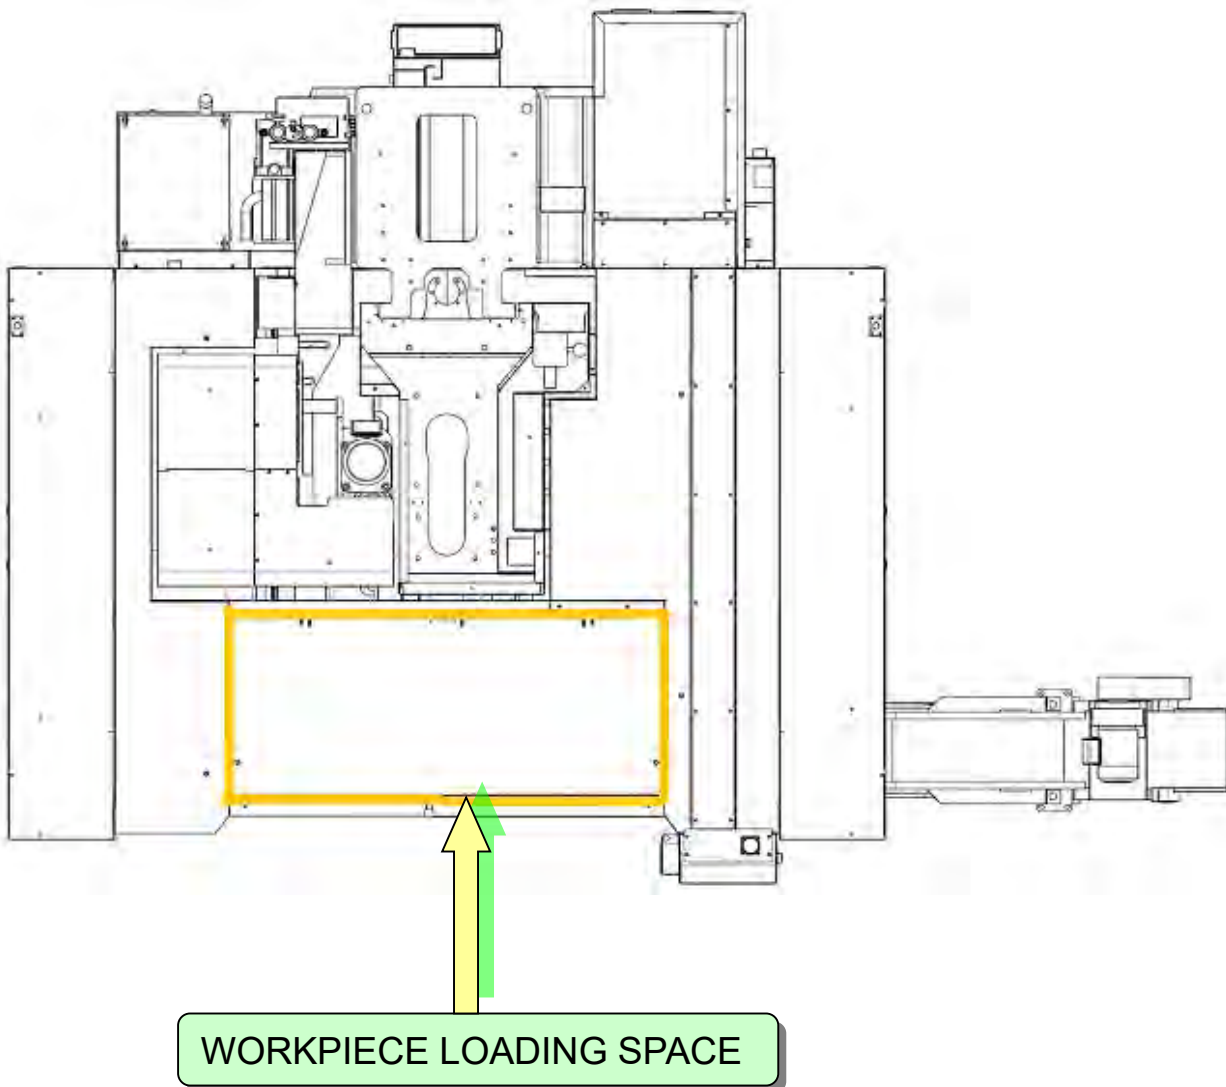

Figure 1-1 POSITION OF WORKPIECE ATTACHMENT AND DETACHMENT
8.1 Tool Attachment and Detachment Figure 1-1)